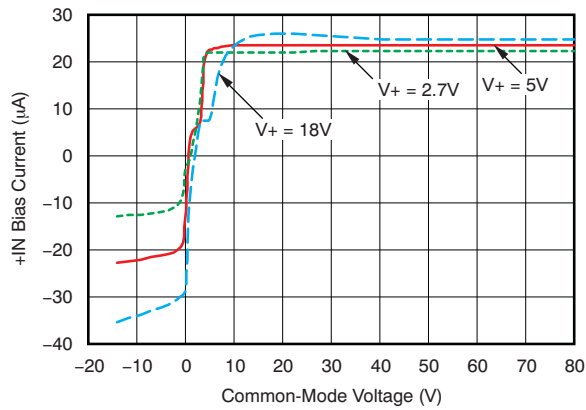

Figure 7. INA283-Q1 +IN BIAS Current vs Common-Mode Voltage
(1) RTI = referred-to-input.
(2) See typical characteristic graph Figure 7.
(3) The average of the voltage on pins REF1 and REF2 must be between V_{GND} and the lesser of ($V_{GND} + 9\text{ V}$) and V_+ .